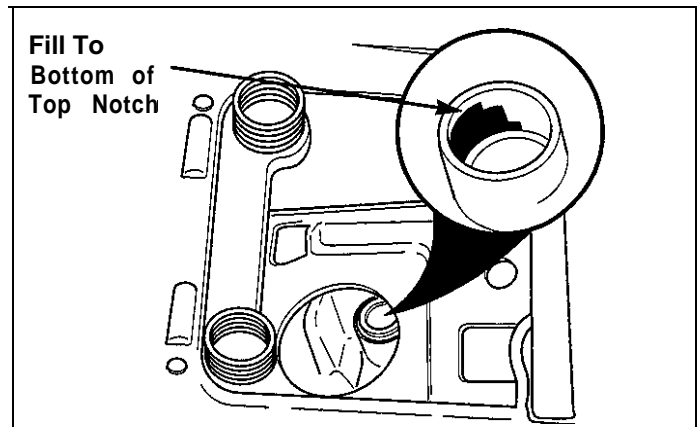

Figure 19. Hydro Transmission Fill Plug Location
2. Clean off the fill plug (see Figure 19).
5. Replace the drain plugs and fill the transmission with oil up to the top notch (see Figure 19 inset).